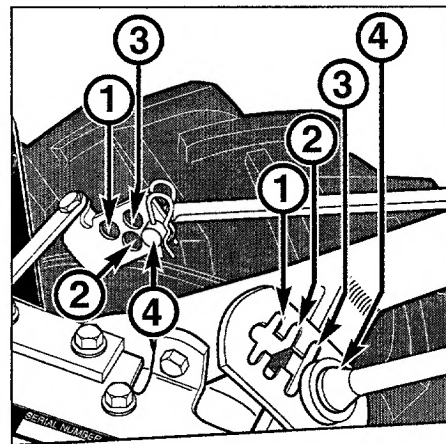

Figure 2-8: Numbered settings for handlebar height slots and clutch swivel plate holes.
3. There are four numbered holes in the clutch swivel plate (see Figure 2-8) and four numbered slots in the curved height adjustment bracket. For correct operation of the Forward Clutch rod, the numbered hole used for the Forward Clutch rod must match with the numbered slot in the height adjustment bracket. For example, if the handlebar is set in slot #1, then the Forward Clutch rod must be installed in hole #1 of the clutch swivel plate.
4. Select the proper hole in the clutch swivel plate and insert the Forward Clutch rod so that the tip faces inward (see Figure 2-8). *Secure the rod by inserting a second hairpin cotter through the hole near the tip of the rod.*